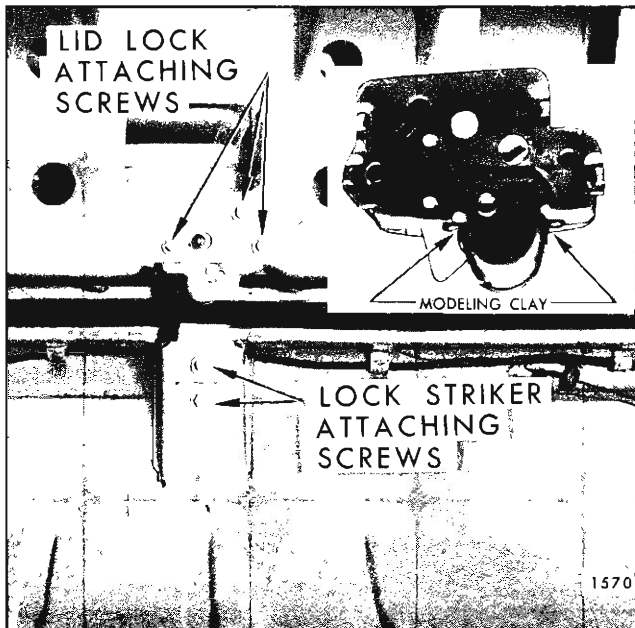

Fig. 2F14—Rear Compartment Lid Lock and Striker Attachments
- a. Insert a small quantity of modeling clay on frame of lock on both sides of lock bolt (Fig. 2F14). Close lid with moderate force.